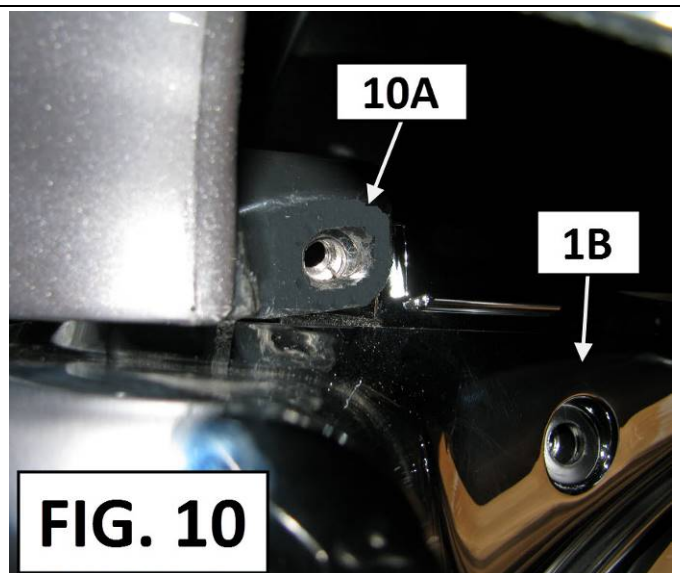

FIG. 10
- REINSTALL THE LOWER COWL (1B) MAKING SURE THE FAIRING TABS (10A) ARE IN FRONT OF THE CLIP NUTS ON THE COWL. SEE FIG. 10. INSTALL THE TWO UPPER MOST SCREWS FIRST WHEN REINSTALLING THE LOWER COWL.